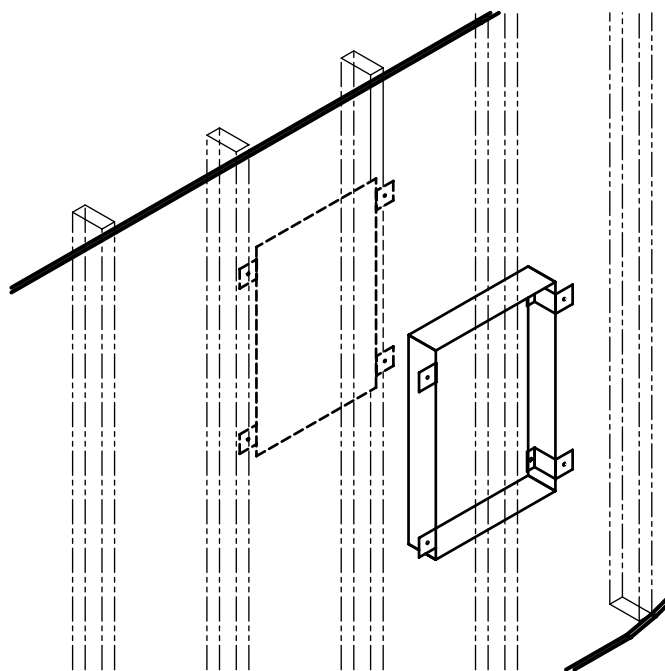

fig. 9
1. Place the backbox into the opening and with a pencil outline the mounting brackets. Remove the backbox. (please see fig. 9)